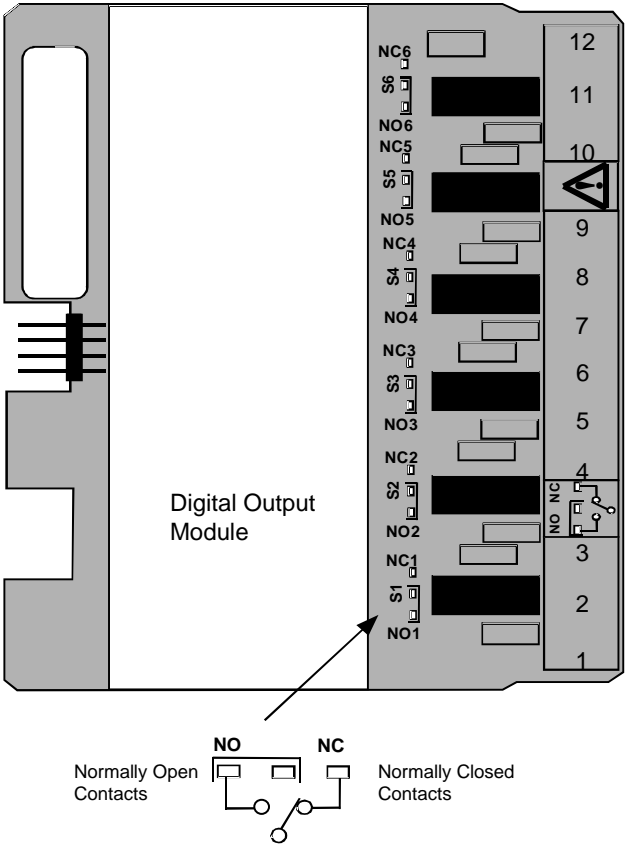

Figure 18 DO module relay contact setting
The Digital Output module with relay outputs (Module ID 6) contain jumpers to set the de-energized state of the relay contacts. The relays are factory set to normally open (NO) for each output on the relay alarm module, as shown in Figure 18.